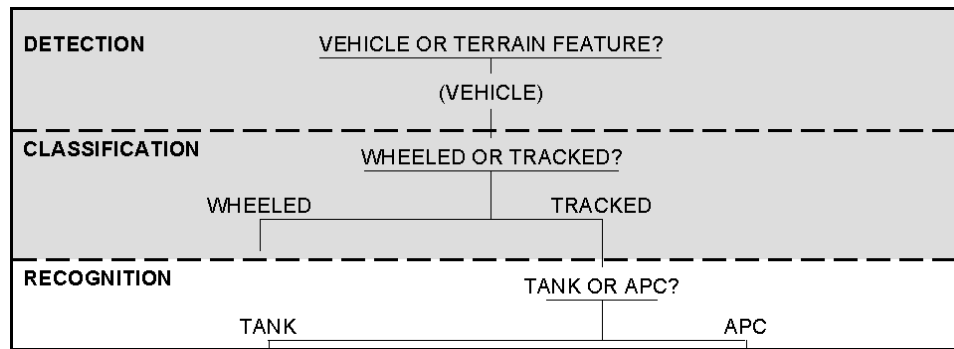

Figure E-61. Target acquisition process—recognition step.
a. **Definition.** Target recognition: to determine whether a tracked vehicle is a tank or an APC (Figure E-61).